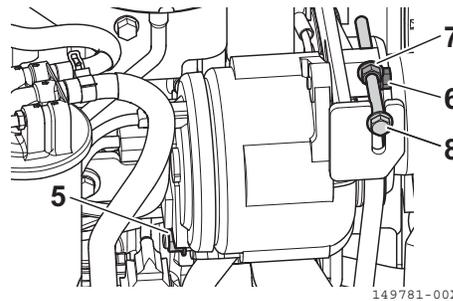

Fig. 8-55
- 1. Loosen the generator mounting bolts (**Fig. 8-55, 5**) and (**Fig. 8-55, 6**).
- 2. Loosen the adjuster set nut (**Fig. 8-55, 7**).
- 3. Turning the adjuster bolt (**Fig. 8-55, 8**) clockwise tensions the belt, and turning it counterclockwise loosens the belt.
- 4. Adjust the belt to the adequate tension, and tighten the generator mounting bolts (**Fig. 8-55, 5**) and (**Fig. 8-55, 6**).
- 5. Tighten the adjuster set nut (**Fig. 8-55, 7**).